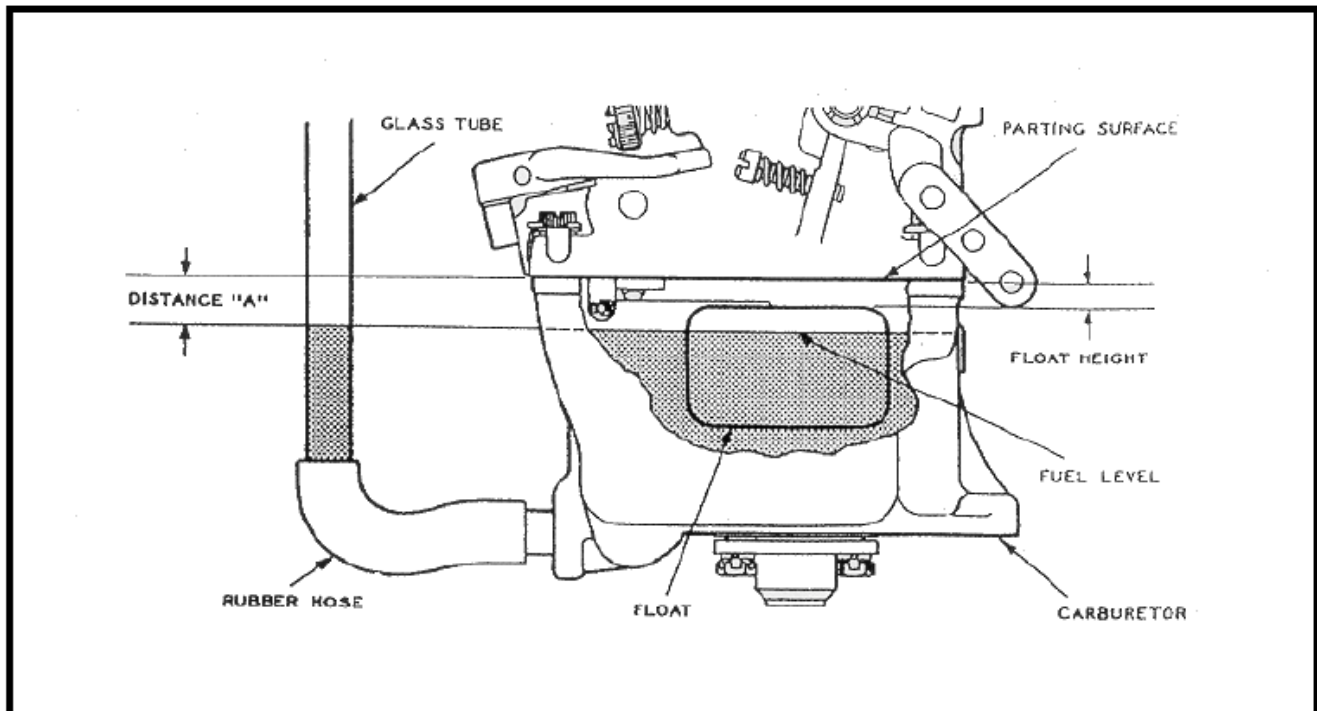

Figure 3-1. Testing for Correct Fuel Level and Float Valve Leakage.
(See figure 3-1.)
- b. With fuel supplied to the carburetor as shown in figure 3-1, operate the throttle lever for several strokes to fill the accelerating pump and passages. Then close the throttle, open it fully again, and hold it for a few seconds. If the accelerating pump is operating correctly, a solid stream of fuel will be discharged from the accelerating pump discharge tube or jet and will gradually die away after the spring on the pump plunger reaches its limit.